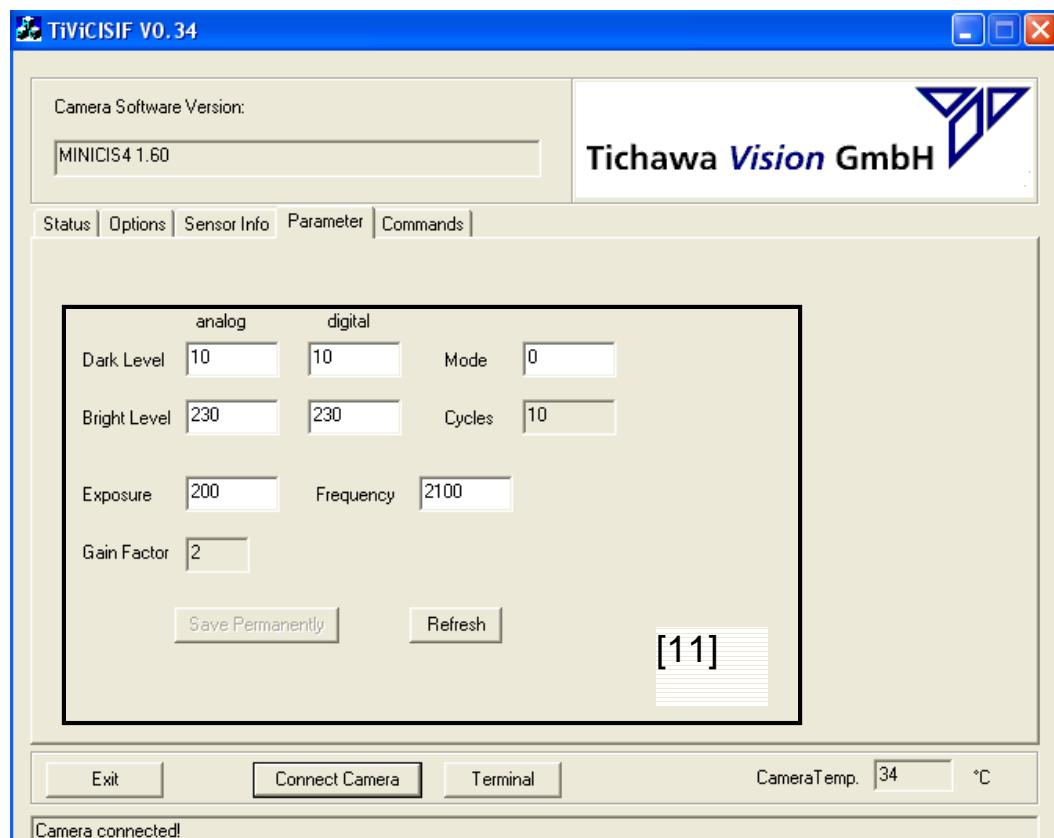

Figure 4 – Parameter
- k) In the parameter menu it's possible to set the basic parameters of the CIS. I.e. for shading correction [11] (**figure 4**). This parameters are explained in 3.3 of the documentation.